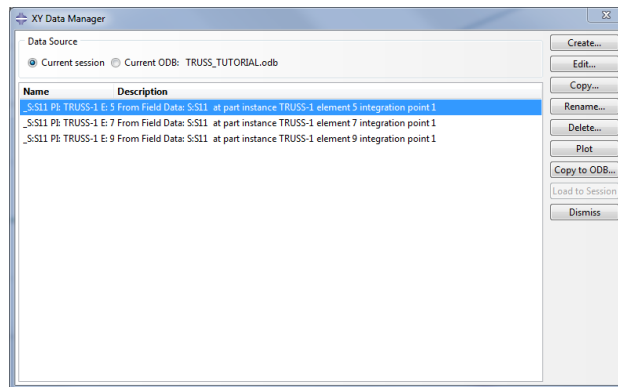

Figure 42. XY Data Manager Dialog Box
- The **XY Data Manager** dialog box will appear (Figure 42).